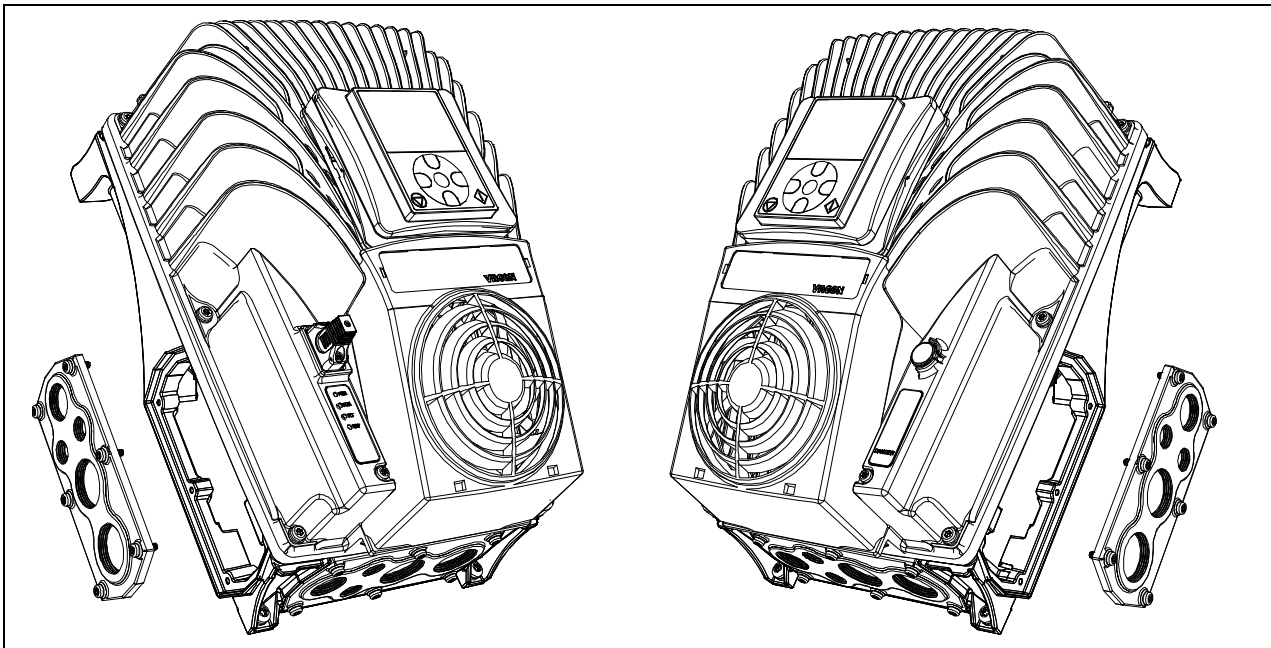

Figure 36. Disconnect the cable entry plate: example for MM5.
- Remove the cable entry plate from the drive on the left-hand-side if the mains switch must be mounted on this side. Otherwise remove the cable entry plate from the right-hand-side. See the Figure 36.